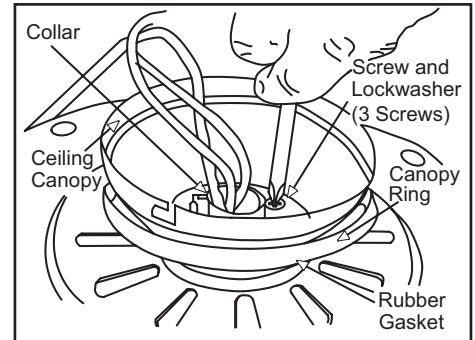

Figure 10
5. Place the rubber gasket over the remaining three screws, route the wires exiting the top of the fan motor through the canopy ring (make sure the slot openings are on top), then proceed to place the ceiling canopy over the collar at the top of the motor (Figure 10).
6. Align the mounting holes with the holes in the motor and fasten, using the three screws and lock-washers removed in step 4 (Figure 10).